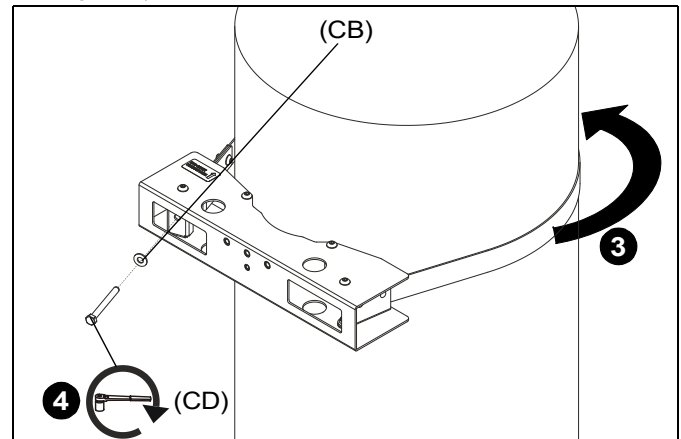

Figure 2
3. Wrap strap around column at desired mounting height. (See Figure 2)
4. Use 5/16-18 x 3" hex head carriage screw (CD) and .750x.350x.060 spacers (CB) to secure strap around column. Tighten to a torque rating of 75 inch pounds. (See Figure 2)